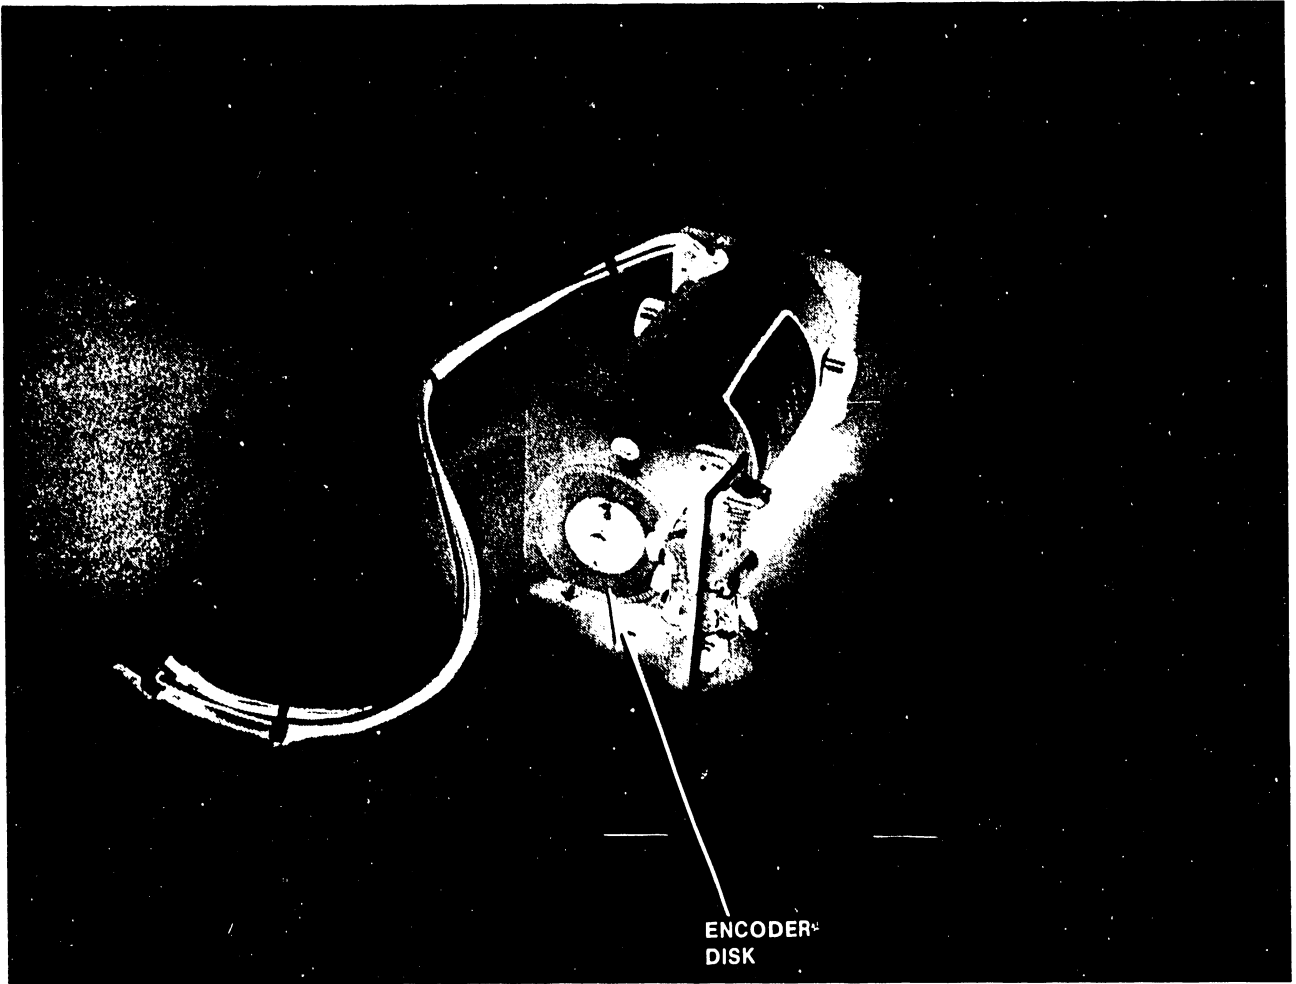

Figure 5-18 Print Head Carrige Drive Motor
5.4.7 Print Head Carriage Drive Motor P/N (279-5233-15) See Figure 5-18.